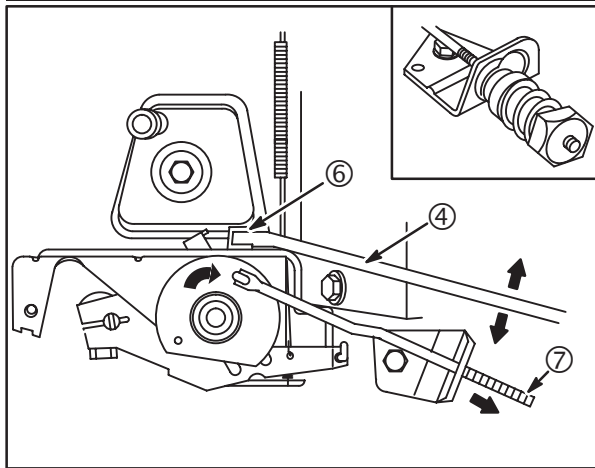

Fig. 40
- Disengage the adjustable fixed speed control nut (Inset, **Fig. 40**).
- With engine running, pull control rod (7) out until swivel is against stop. Hold in this position, **Fig. 40**.
- Use tang bender (4) to bend tang (6). Adjust to Top No-Load RPM for the type of generator listed in Table 1.
- Re-install control nut, spring and retainer. Turn nut clockwise until threads on control rod are visible from end of nut, inset **Fig. 40**.